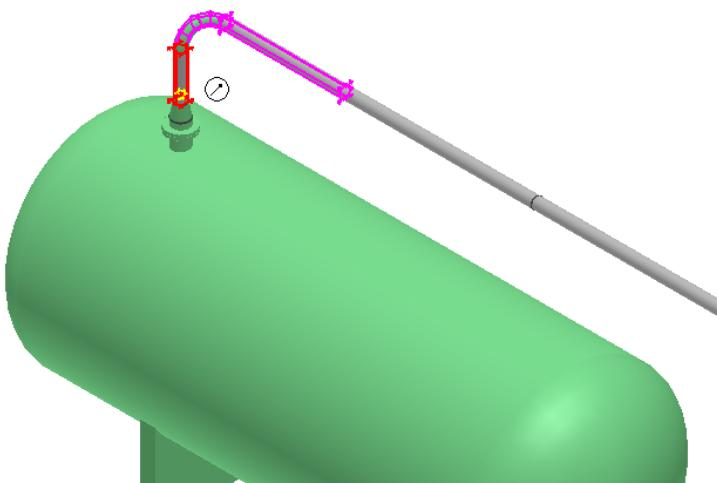

Figure 20: Selected Section for Insulation
8. Select all straight and turn features between the equipment nozzle and the feature break by holding the Shift key, as shown in Figure 20.